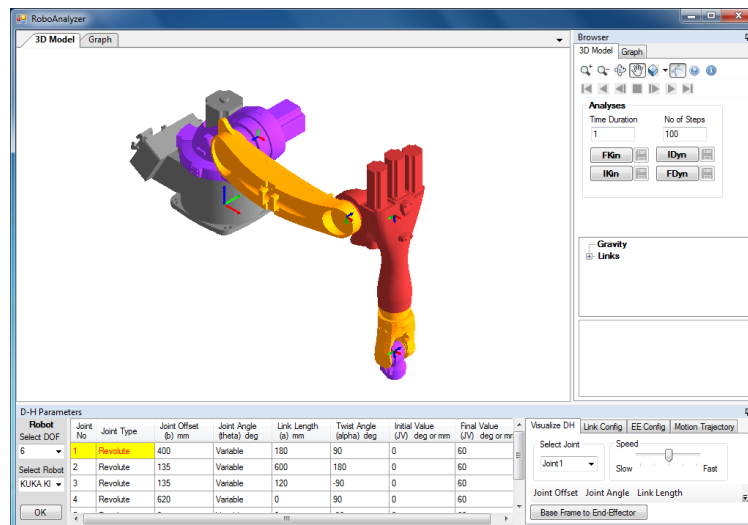

Figure 2: 3D CAD Model of Industrial Robot
After selecting a robot model, users can modify the Denavit-Hartenberg (DH) parameters shown in the tabular form and the robot model updates automatically. A few industrial robots are also listed, when selected shows a 3D CAD model of the robot (Figure 2).